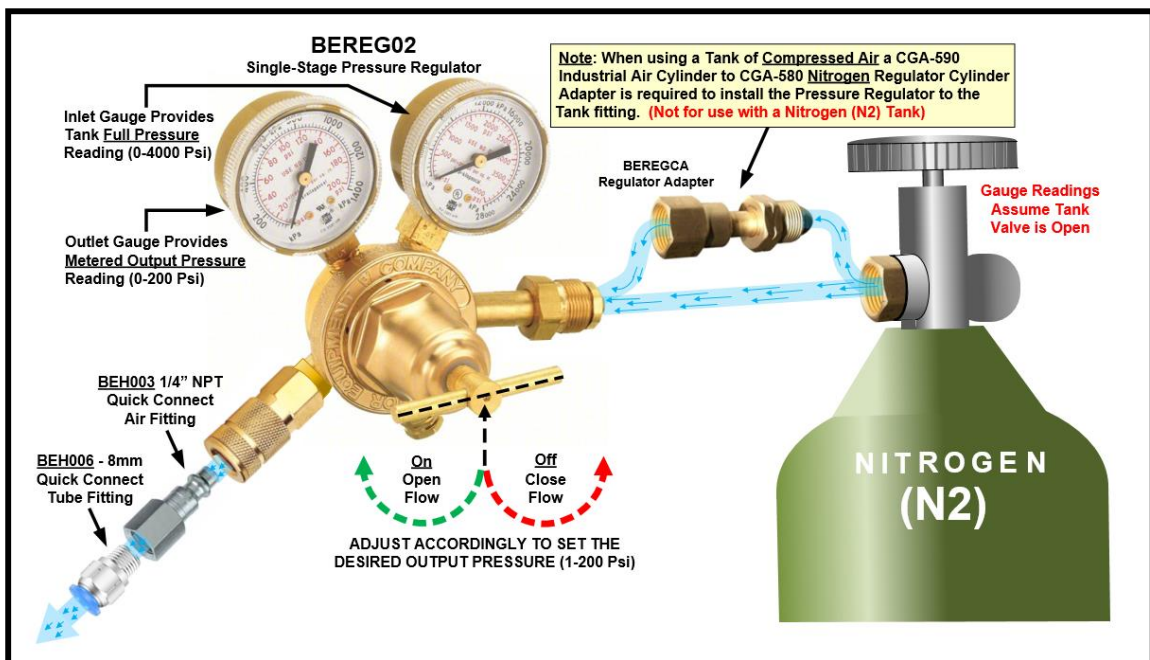
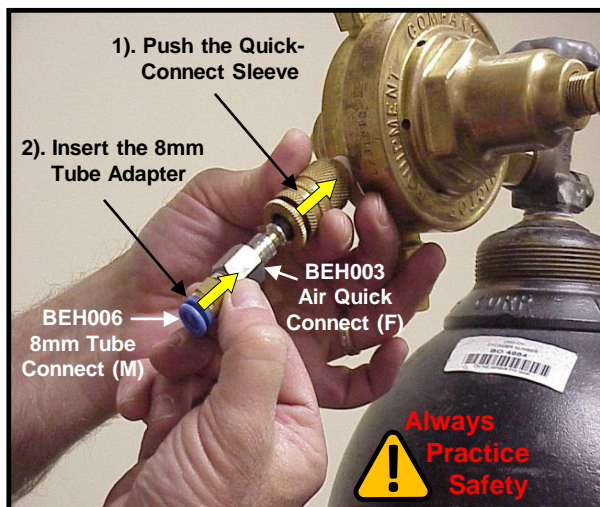

Figure 9a
Figure 10
7.3 With the Pressure Regulator Valve open, open the Tank/Tank Supply Valve and check for any leaks around the fitting. If leaking is detected, close the Tank Supply Valve and re-tighten with the wrench. This step ensures no leaks exist while getting setup to blow. **See Fig. 9a**
7.5 Install assembled BEH003 + BEH006 Air Quick-Connect and 8mm Tubing Adapter into the Female Quick-Disconnect fitting on the Pressure Regulator. **See Fig. 9a / Fig. 10.**